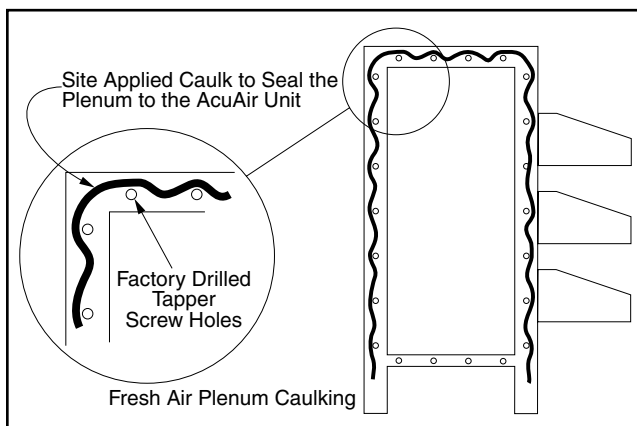

Figure 23 - Applying Caulk to Plenum
8. Apply continuous beads of polyurethane caulking on the face of the plenum flanges. The caulking should be on the outside of the factory drilled attachment screw holes. This caulking will prevent rain water from reaching the attachment screw penetrations once the plenum is mounted to the AcuAir unit. See Figure 23.